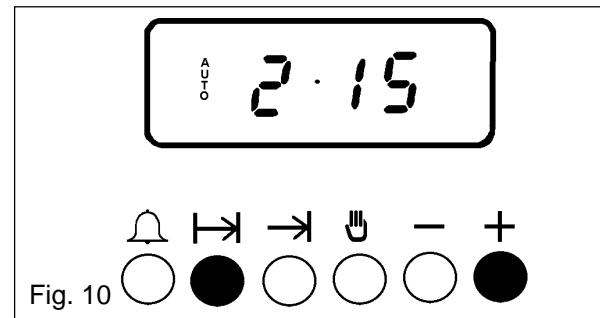

Fig. 10
- To set the length of cooking time, press the cooking hours button (⏸), while holding it down, depress the increase control (+) until the required length of cooking time is displayed, e.g. 2 hrs 15 mins as Fig. 10. Depress the decrease control (-) if necessary.